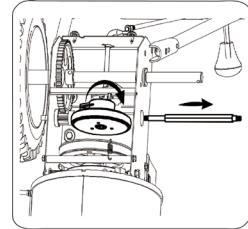

Figure 33
**NOTE:** If you're replacing the friction wheel assembly as a whole, discard the worn part and slide the new part onto the hex shaft. Follow the steps above the friction wheel and replacing only the rubber ring, proceed as follows. See Figure 33.